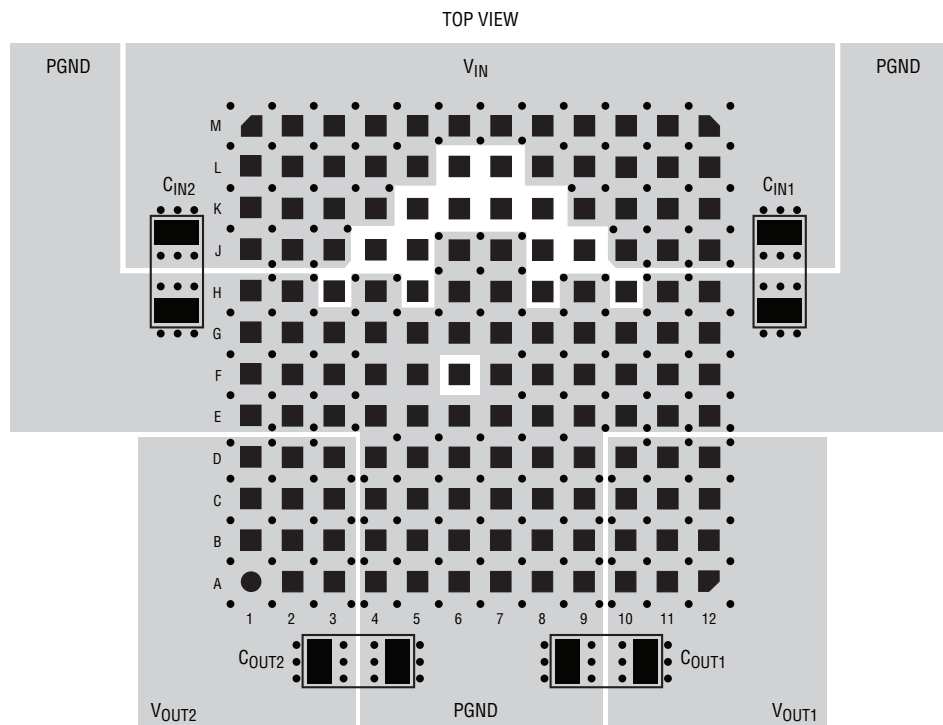

Figure 17. Recommended PCB Layout
- Decouple the input and output grounds to lower the output ripple noise. Refer to Figure 17.
Figure 17 gives a good example of the recommended layout.